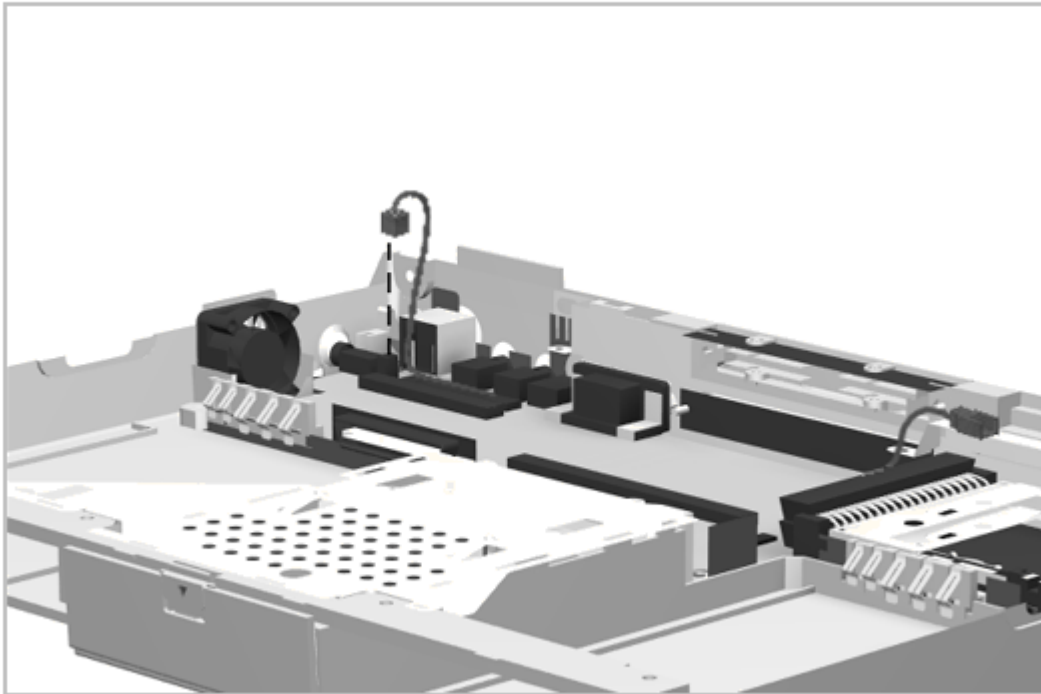

Figure 5-54. Removing the Microphone Extension Cable
2. Disconnect the microphone extension cable from the microphone cable and its connector in the left rear corner of the system board, and lift the cable out (Figure 5-54).